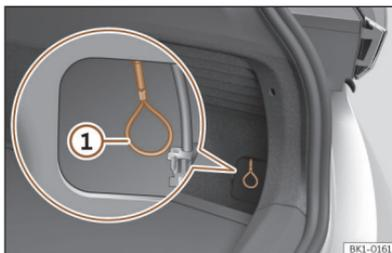

Fig. 73 Behind the cover: emergency unlock of the charging connector.
- Pull the emergency manual release loop >>> **Fig. 73** ①. The charging connector can be removed >>> ⚠.